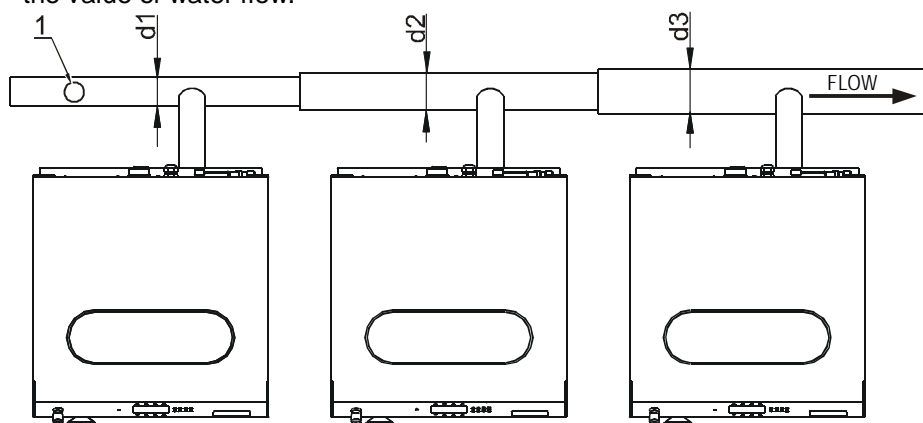

Figure 16 – Recommended drain pipe diameters
- The main drain channel-pipe must have the capacity to be able to handle the total output of all connected machines. In a drainpipe, a vent must be provided every twenty meter, Figure 16., pos.1 to assure the good working of the drain pipe. If the main drain pipe cannot be sufficiently vented, install a vent per machine. Every time a machine is coupled on the drainpipe, the diameter of the tube or the width of the waste channel must be more. See Figure 16., d1, d2, d3.